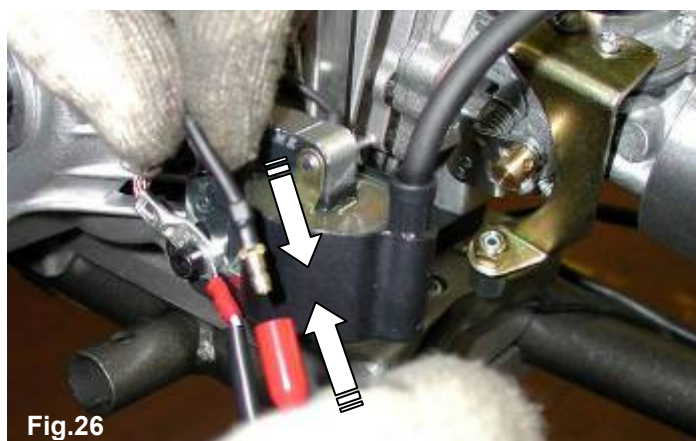

Fig.26
3.8.9 CONNECT THE H.T. COIL CABLE TO THE HARNESS TERMINAL (SEE FIG. 26).